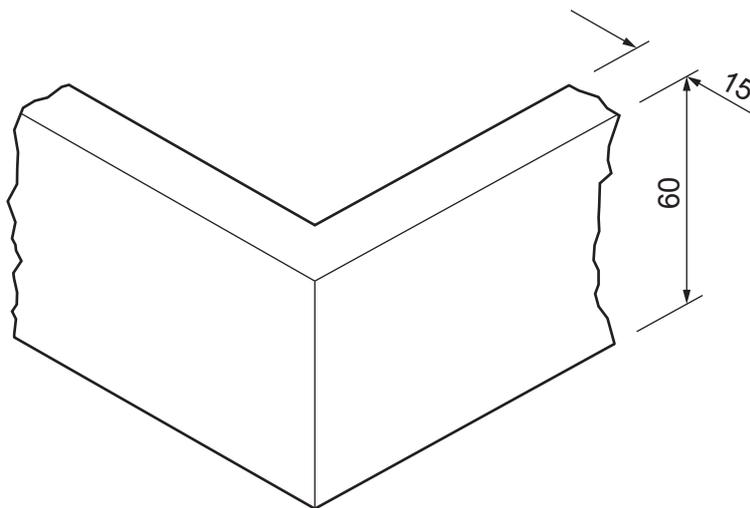

Fig. 11.2
- (a) The sides of the box will be joined at each corner by means of finger (comb) joints. Complete Fig. 11.2 to show an assembled finger (comb) joint.